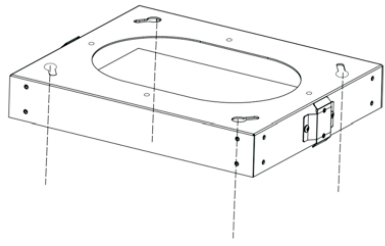

Fig.1
1. Place the truss to the ceiling directly above the cook-top(the center of the diagram must match the center of the cook-top and the edges must be parallel to the sides of the cook-top) and mark the 4 points as shown Fig.1